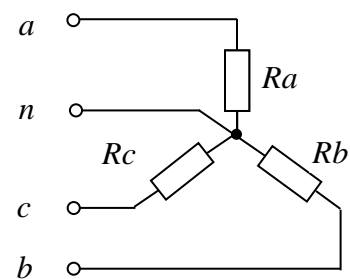

Fig. 3.8
10. Write down the phase voltages in a complex form for the three-phase power source with a linear voltage $V_L = 220\text{ V}$. Calculate the phases' resistances, the phases' complex currents, the neutral complex current for the three-phase consumer. The consumers' phase powers are accordingly: $P_a = 100\text{W}$, $P_b = 80\text{W}$, $P_c = 50\text{W}$ (fig. 3.8).